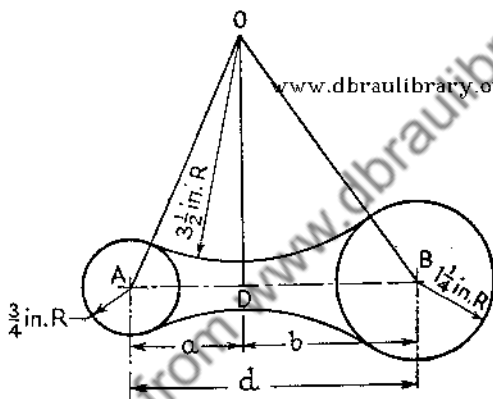

Fig. 40
(2) Calculate the distance  $d$  in fig. 40.